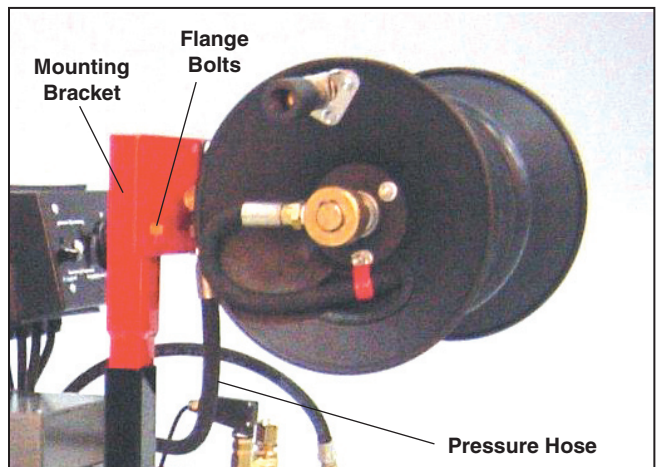

Figure 3
3. Using the supplied 3/8" x 3/4" flanged bolts and 3/8" flanged nuts, mount hose reel to mounting bracket. *See Figure 3.*
4. Mount hose reel assembly to machine. Slide hose reel bracket into hose reel mounting post on machine. *See Figure 3.*